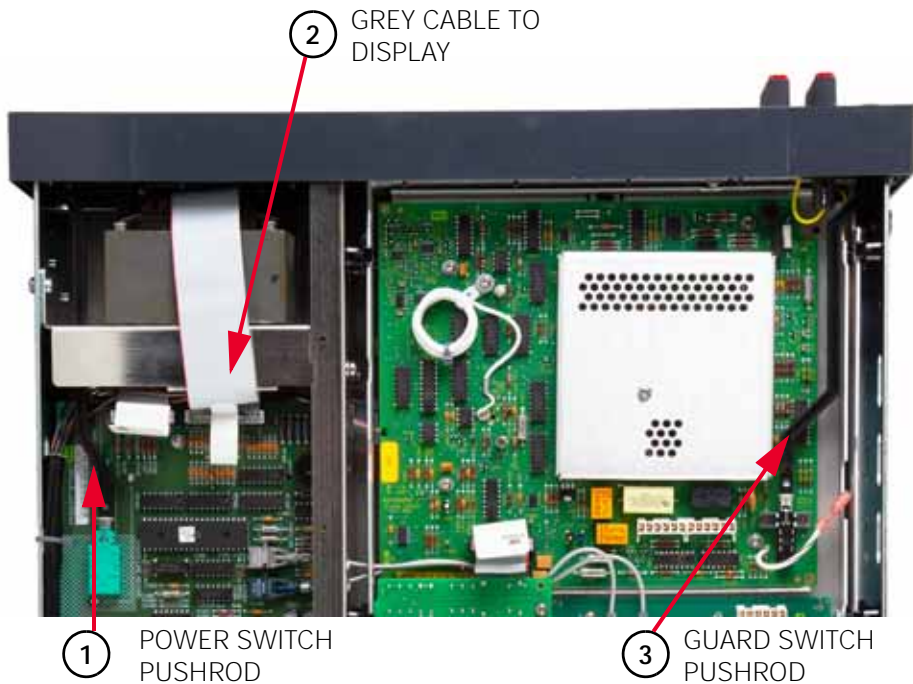

Figure 3-16 Guard and power pushrods, and display cable locations
- 3 Refer to Figure 3-16. Do the following:
- 15 Refer to Figure 3-16. Do the following: